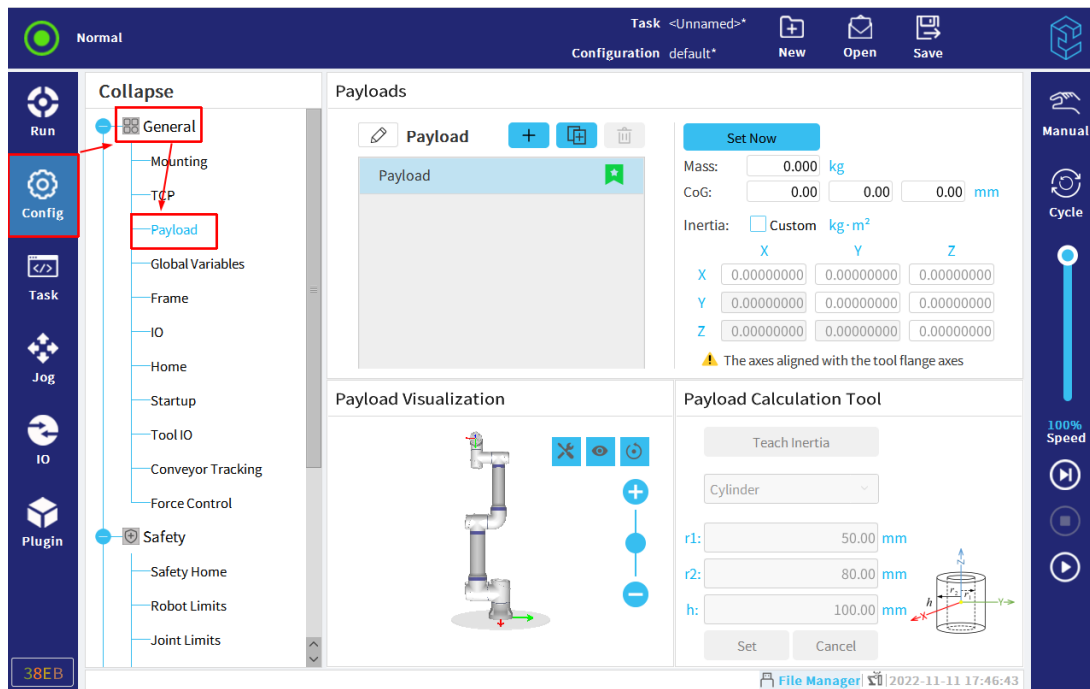

Figure 3-43 : Set payload now
The user can specify the weight of the payload and define the center of gravity, and can add, rename, delete, copy and other operations on the payload, as shown in **Figure 3-43**.
- Immediate setting: click "Set Now", a black check mark will appear, indicating that the payload is activated immediately, as shown in **Figure 3-43**.